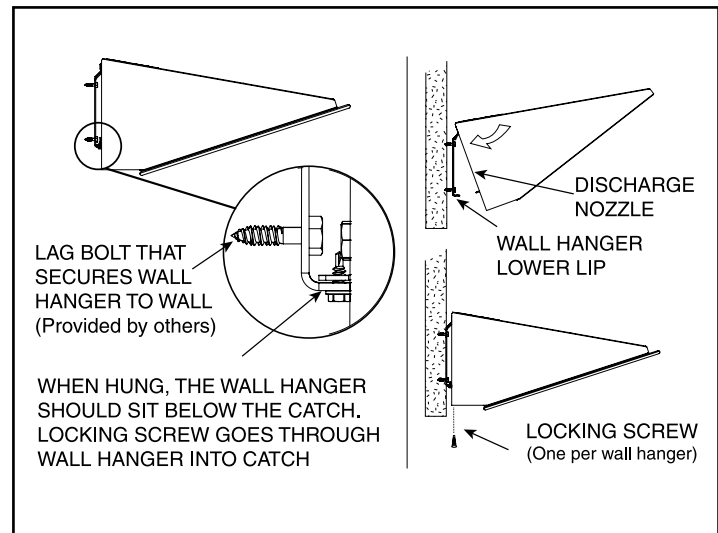

Figure 5 - Wall Mounting Installation
1. Raise the unit over the door (air discharge nozzle facing down) and onto the wall mounting hangers. **See Figure 5.**